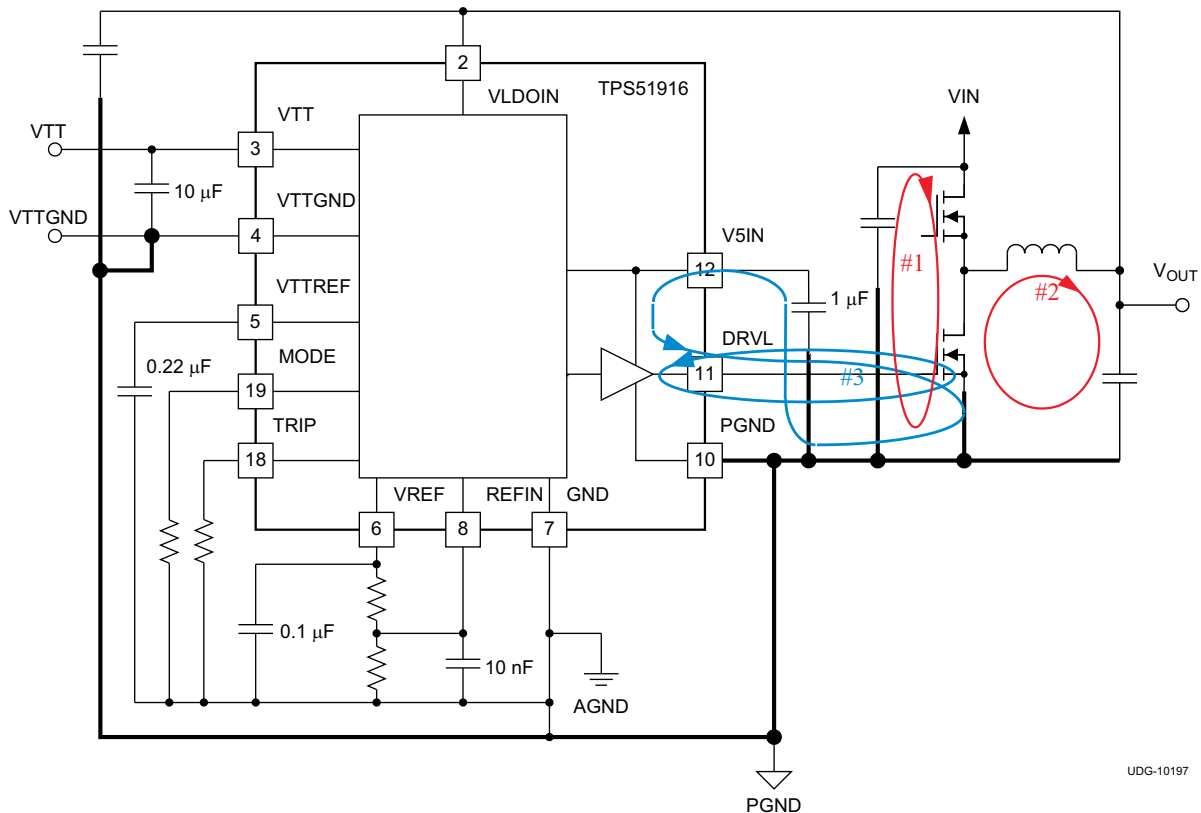

Figure 40. DC/DC Converter Ground System
- The most important loop to minimize the area of is the path from the VIN capacitor(s) through the high and low-side MOSFETs, and back to the negative node of the VIN capacitor(s). Connect the negative node of the VIN capacitor(s) and the source of the low-side MOSFET as close as possible. (Refer to loop #1 of Figure 40)
- The second important loop is the path from the low-side MOSFET through inductor and VOUT capacitor(s), and back to source of the low-side MOSFET. Connect the source of the low-side MOSFET and negative node of VOUT capacitor(s) as close as possible. (Refer to loop #2 of Figure 40)
- The third important loop is of gate driving system for the low-side MOSFET. To turn on the low-side MOSFET, high current flows from V5IN capacitor through gate driver and the low-side MOSFET, and back to negative node of the capacitor. To turn off the low-side MOSFET, high current flows from gate of the low-side MOSFET through the gate driver and PGND pin, and back to source of the low-side MOSFET. Connect negative node of V5IN capacitor, source of the low-side MOSFET and PGND pin as close as possible. (Refer to loop #3 of Figure 40)
VTT output capacitor(s), VTTGND, GND and PGND pins should be connected to system GND plane near the device as shown in Figure 40.